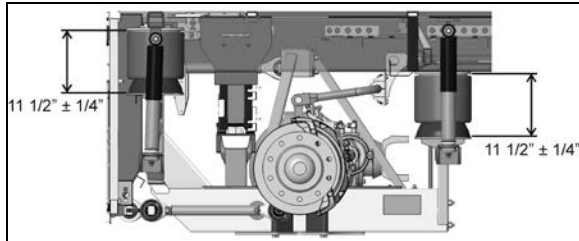

FIGURE 46: DRIVE AXLE AIR SPRING CLEARANCE 16195
1. Unscrew the nuts (or bolts) at each extremity of the radius rod (Fig. 46).